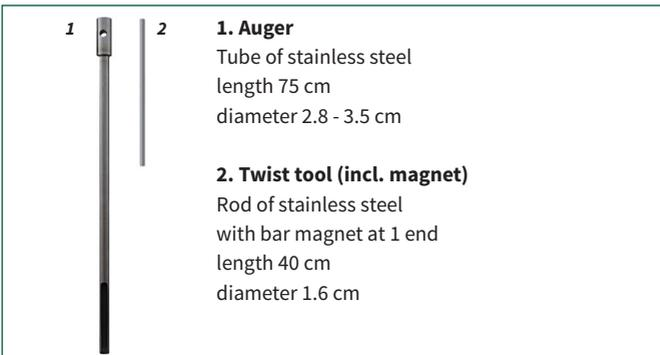

Figure 2 Sensetion installation set
1. Use the **auger** (see **Figure 2 Sensetion installation set** on page 6) to **drill an undersized hole with a depth of at least 60 cm at the selected spot in the field**. Pre-drilling a hole is necessary for a proper installation. Otherwise, the Sensetion may be damaged, causing it to stop working correctly!
2. **Put the Sensetion** in the undersized hole and turn it clockwise into the soil **up to the black marker line** using the twist tool (see **Figure 2 Sensetion installation set** on page 6), thereby aiming the **solar panel south (in the southern hemisphere north)**. The installation should be carried out using the **Sensetion installation set**.